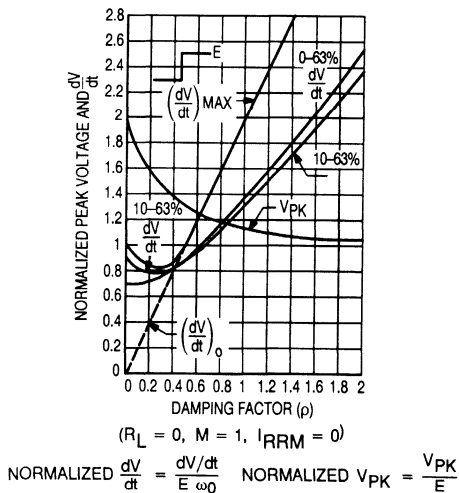

Figure 18. Trade-Off Between  $V_{PK}$  and  $\frac{dV}{dt}$
A variety of wave parameters (Figure 18) describe  $\frac{dV}{dt}$ . Some are easy to solve for and assist understanding. These include the initial  $\frac{dV}{dt}$ , the maximum instantaneous  $\frac{dV}{dt}$ , and the average  $\frac{dV}{dt}$  to the peak reapplied voltage. The 0 to 63%  $\left(\frac{dV}{dt}\right)_s$  and 10 to 63%  $\left(\frac{dV}{dt}\right)_c$  definitions on device data sheets are easy to measure but difficult to compute.
1. Refer to Figure 18 and select a particular damping factor ( $\rho$ ) giving a suitable trade-off between  $V_{PK}$  and  $\frac{dV}{dt}$ . Determine the normalized  $\frac{dV}{dt}$  corresponding to the chosen damping factor.